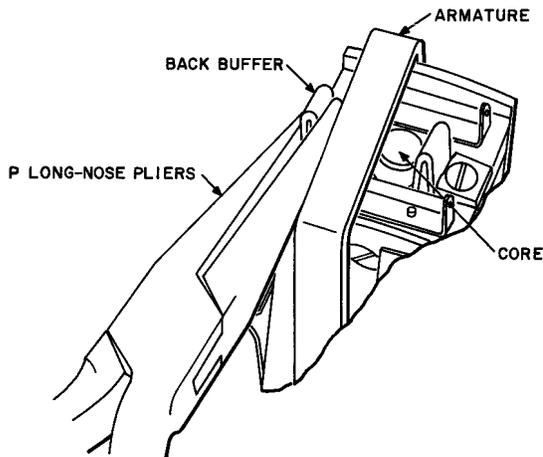

Fig. 7 — Method of Adjusting Armature Position (85F-Type Relay)
**3.09 Armature Position** (Reqt 2.09): If the armature in the unoperated position is not back of the edge of the core, adjust the back buffer away from the armature with the P long-nose pliers as shown in Fig. 7. Exercise care to keep the armature very close to the core since otherwise the relay probably will fail to meet its electrical operate requirement.